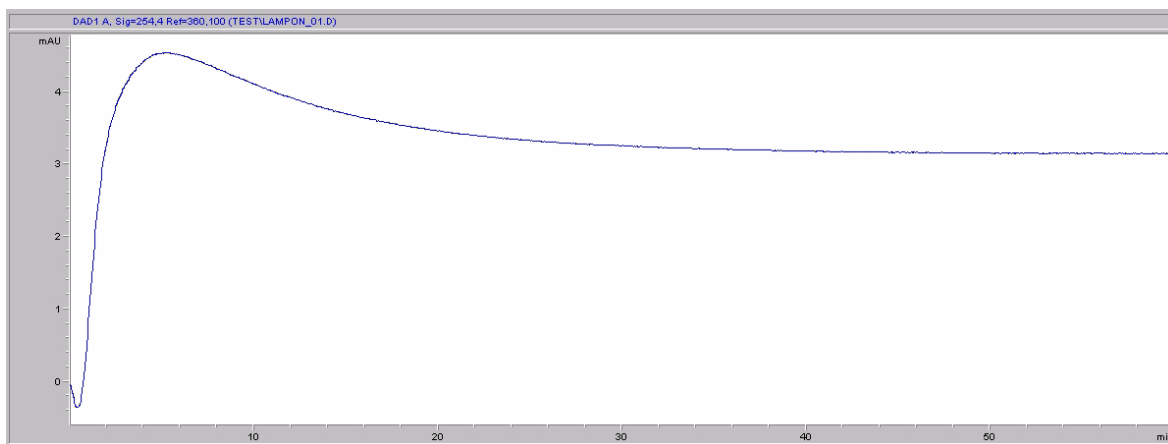

Figure 17 Stabilization of Baseline (both lamps turned on at the same time)
- 6 Allow the detector to warm up at least 60 minutes to provide a stable baseline (see example in Figure 17 on page 70 and Table 11 on page 70).